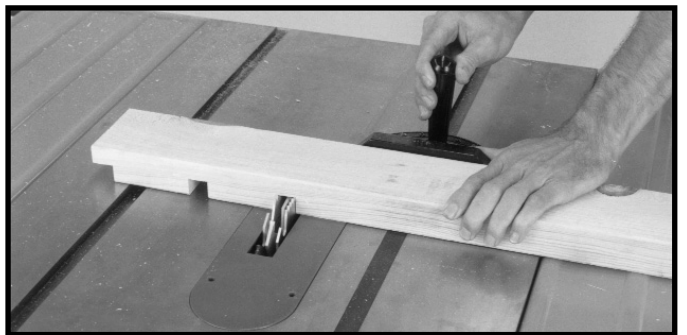

Fig. 57
3. Fig. 57, shows a typical dado operation using the miter gage as a guide.